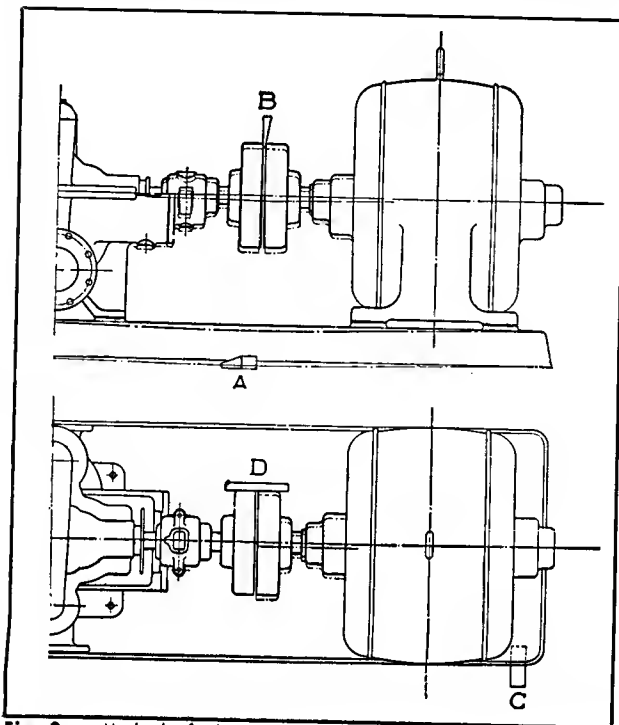

Fig. 3 — Method of aligning baseplate and flexible coupling.
C. BASEPLATE ALIGNMENT (Fig. 3)
Angular and parallel misalignment are corrected by adjusting the wedges or shims (A and C, Fig. 3) under the baseplate. After each change, it is necessary to recheck alignment of the coupling halves, since adjustment in one direction may disturb adjustments already made in another direction. It should not be necessary to place shims under the pump; all shims and adjustments should be made under the driver.
E. COUPLING ALIGNMENT (Fig. 3)
Tighten foundation bolts firmly. After the baseplate and pump have been firmly bolted, align the drive to the pump by using the straight-edge taper gauge furnished with the pump unit (B—Fig. 3).
Angular alignment is checked by inserting a taper gauge (B—Fig. 3) between the coupling faces at four points spaced at 90 degree intervals and com-
A check for parallel alignment is made by placing a straight edge (D—Fig. 3) across the coupling rims at the top, bottom and both sides. The unit will be in parallel alignment when the straight edge rests evenly on the coupling rims at all positions.